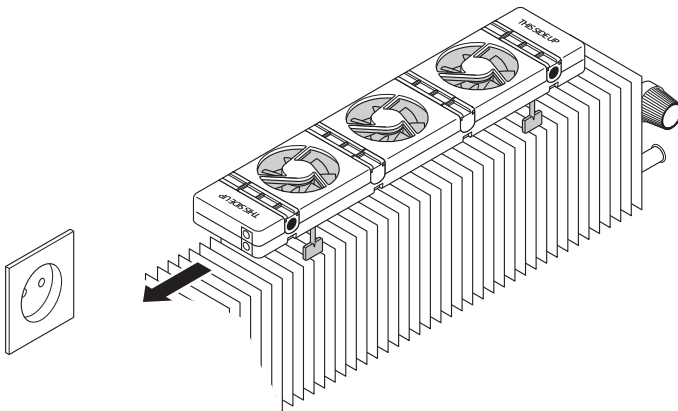

Fig. 9 - Position the **SpeedComfort (A)** on the convector.
1. Attach the **feet (C)** by pushing them into the **slots (2)** of the **SpeedComfort (A)**.
2. Make sure that the **SpeedComfort (A)** faces upwards and that the **female connectors (1)** point towards the wall socket (see fig. 9).
3. Place the **SpeedComfort (A)** on top of the convector and allow space between the convector sides and the **SpeedComfort (A)** to reduce noise (see fig. 9). The SpeedComfort can also be placed on the ground below the convector if space allows.
4. If the convector block is made of magnetic material, the **temperature sensor (E)** can be easily positioned on it with its magnets. The temperature sensor can also be clamped between two plates of the convector block to ensure good heat transfer. The sensor can be attached to a copper pipe or any other non-magnetic location using the provided Velcro.